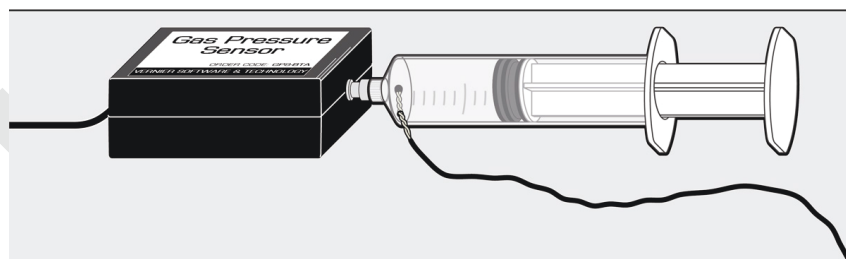

Figure 3
3. If you have the opportunity to experiment with a syringe that has been modified as shown in Figure 3, observe the effect that a rapid expansion or compression has on the temperature of the gas in the syringe. Note that a surface temperature sensor has been inserted through a small hole drilled in the body of the syringe. The hole was later sealed with epoxy.